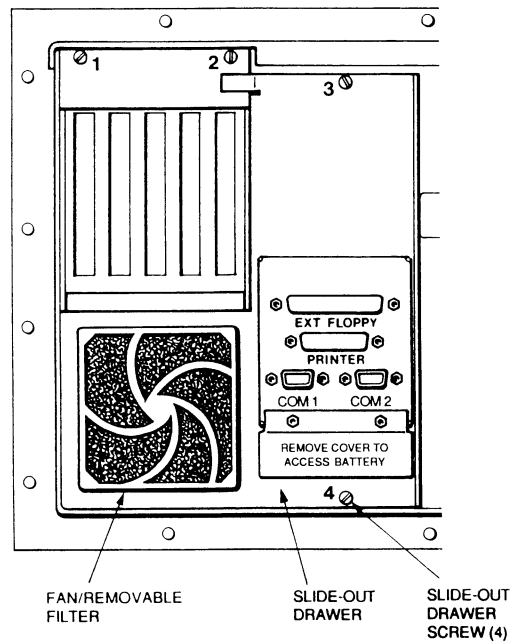

Figure 3-6. Drawer Side of the Back Panel
2. Push the drawer all the way into the shell. Secure the drawer with the four screws removed earlier (see Figure 3-6).